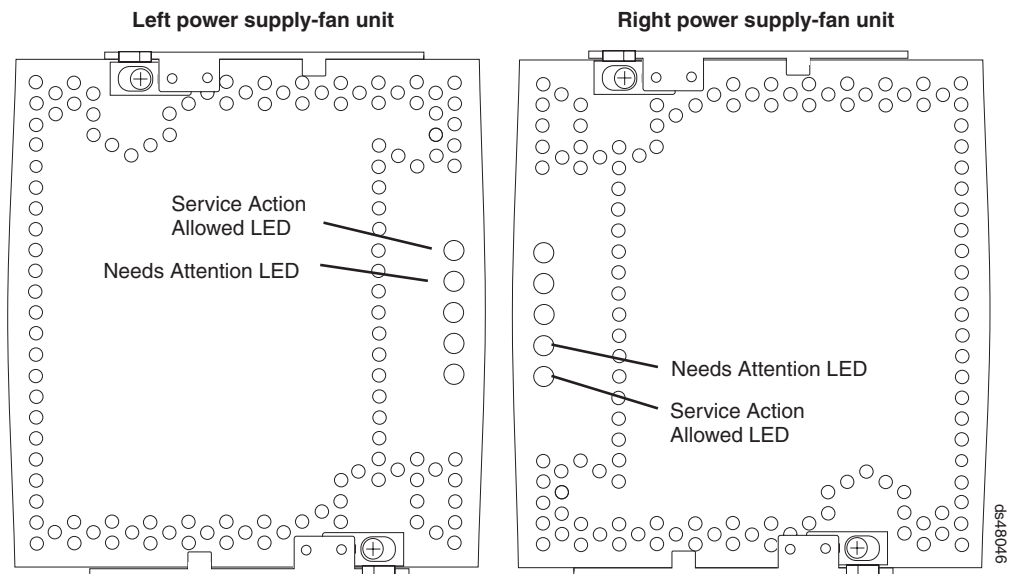

Figure 89. Power supply-fan LEDs
4. Locate the failed power supply-fan by checking that the power supply-fan Needs Attention LED that is turned on. (Figure 89 shows the LEDs on the power supply-fan.)
5. Is the Service Action Allowed status LED turned on? (Figure 89 shows the location of the Service Action Allowed status LED on the power supply-fan.)